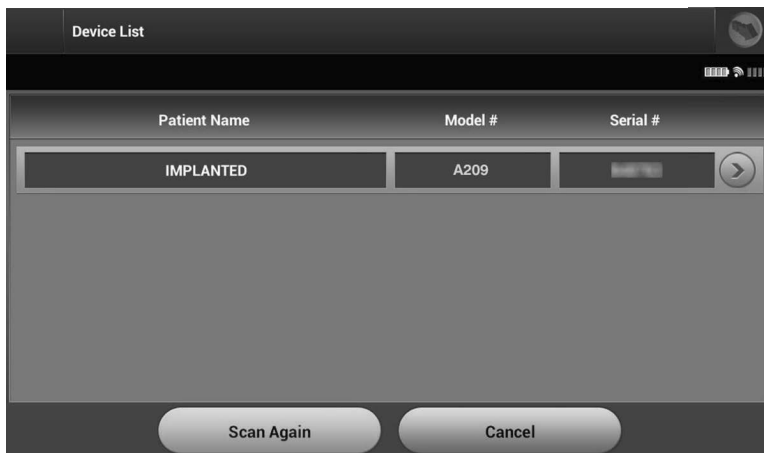

Figure 7: Device List screen (scrollable list)
- When the scanning process is complete, a list of all pulse generators detected (up to 16) will be displayed on the Device List screen (Figure 7 on page 26). The devices that are in Shelf mode will be displayed as “Not Implanted.” Any devices that were previously taken out of Shelf mode are displayed either as “Implanted” or with the stored patient name.
Select the desired pulse generator from the Device List screen (Figure 7) to initiate the communication session.